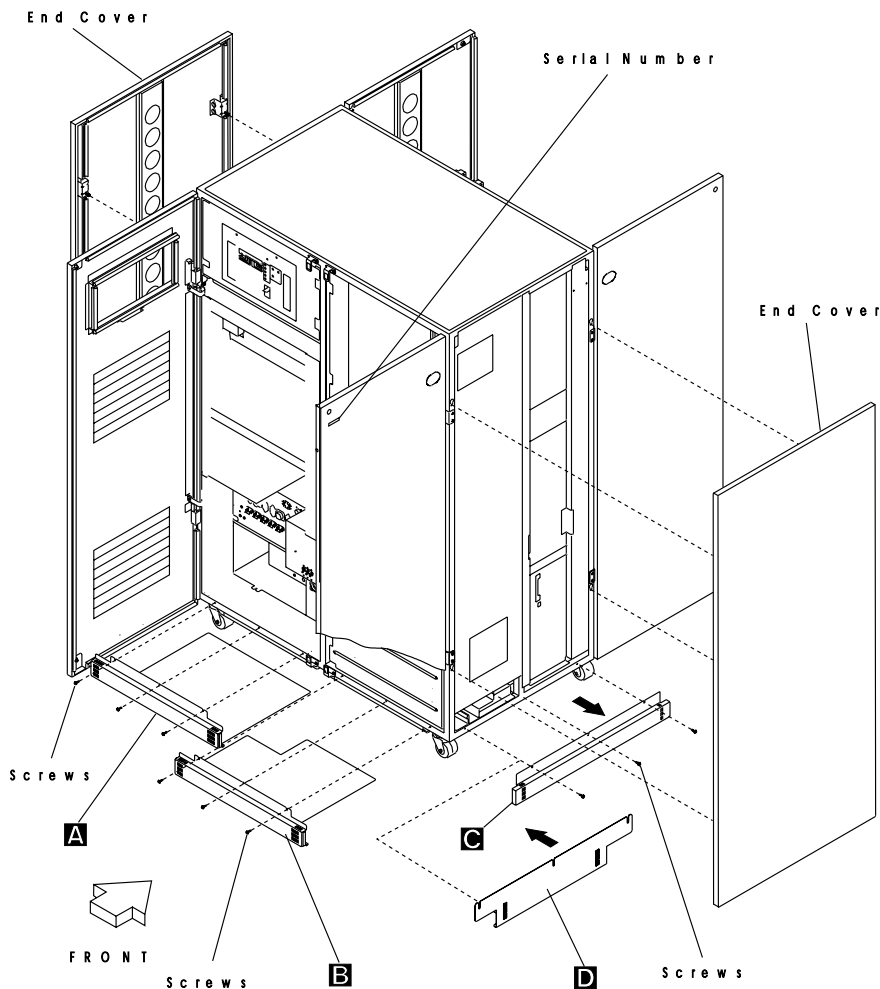

Figure 4-2. Ground Brackets on a 3745 Base Frame
- Step a. \_\_\_\_ **From the front right side of the 3745**, remove the right end cover and the bottom right bracket **C** PN 65X8885 if installed (see Figure 4-2). Place the bracket and cover in a safe out-of-the-way area.